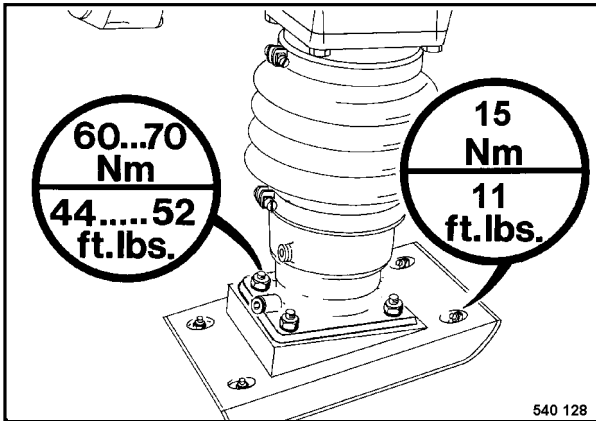

Fig. 1
- Retighten the screws (Fig. 1).